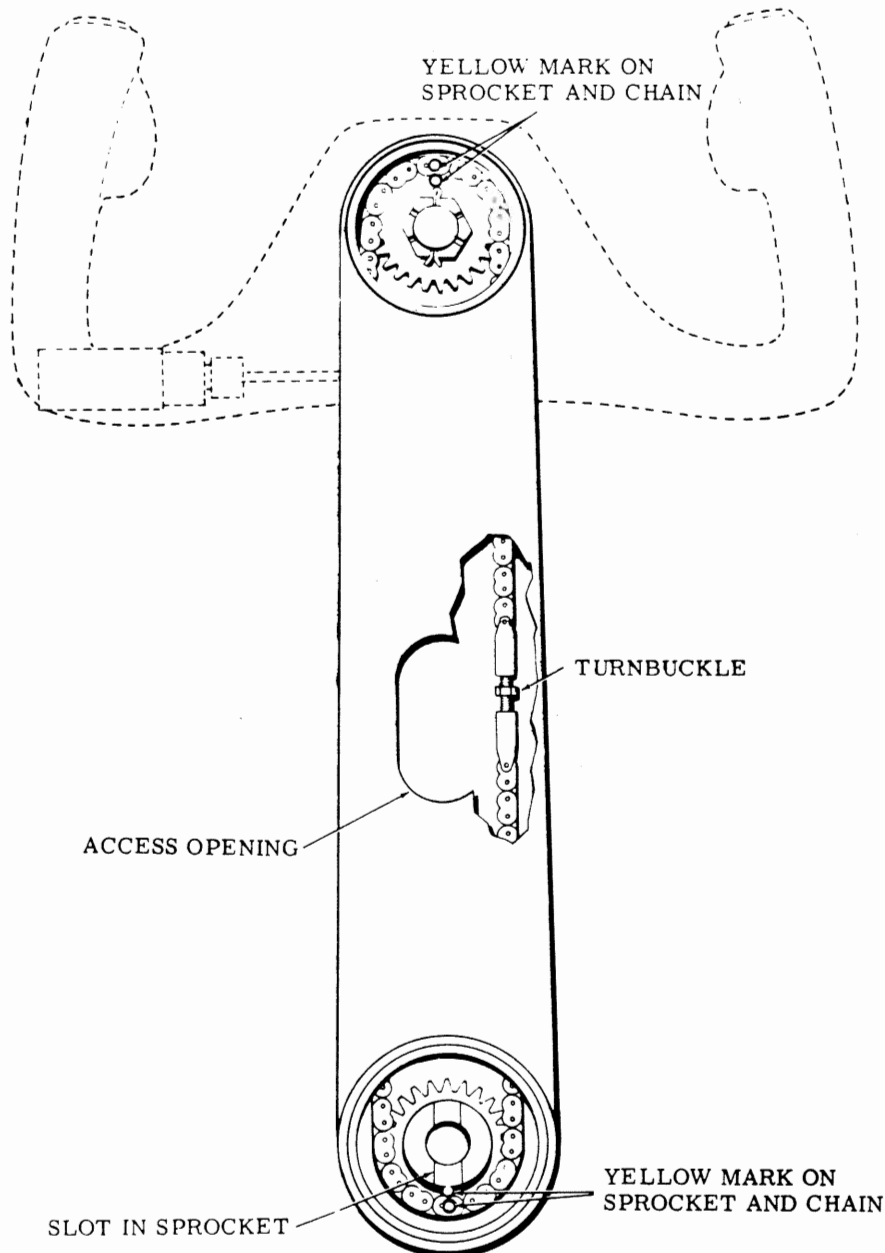

Figure 3-1. Control Column
(Figure 3-1)
- b. The slot in the sprocket as shown in Figure 3-1 must be in alignment with the yellow marks.